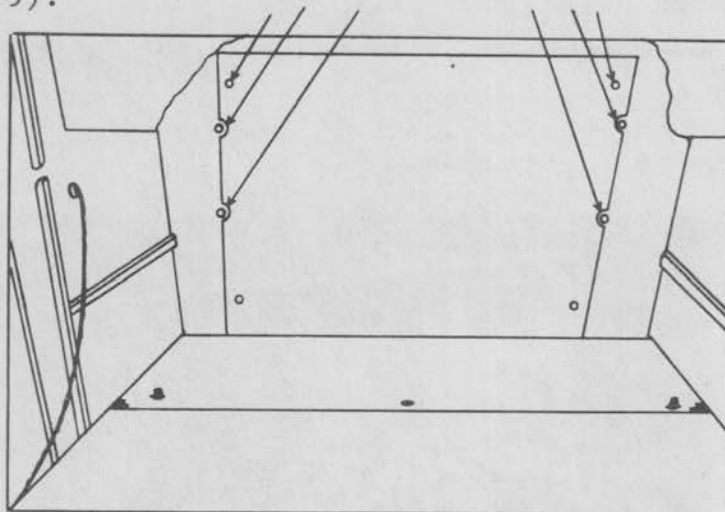

Figure 2-5. Power Supply Removal
1. With the front storage compartment door open, remove the 4 Phillips head screws from the front of the power supply (Figure 2-5).